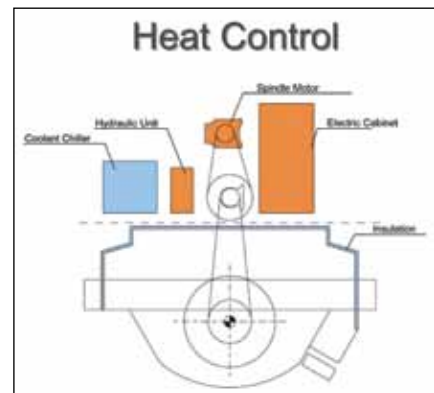

Figure 4—Most of the heat-generating components are placed outside the machining area to minimize machine and part distortion.
**Controlling the heat.** By placing the heat generating sources (spindle, motor, control box, hydraulic unit and coolant pump) outside the machine, and also insulating the rear side of the column, thermal growth of the machine is minimized. Also, large parts of the machine structure, such as the bed, column and slide, were engineered symmetrically, to minimize heat displacement with respect to the center of the spindle (Fig. 4).